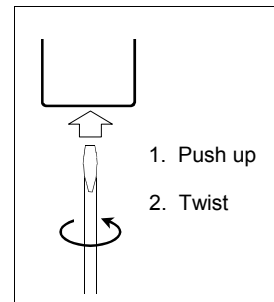

Fig. 2. Opening the case
1. **Remove the cover.** Remove the GEMC-BSLC-RLY point module cover by inserting a small screwdriver into the slot at the bottom and twisting while applying upward pressure. See Fig. 2.